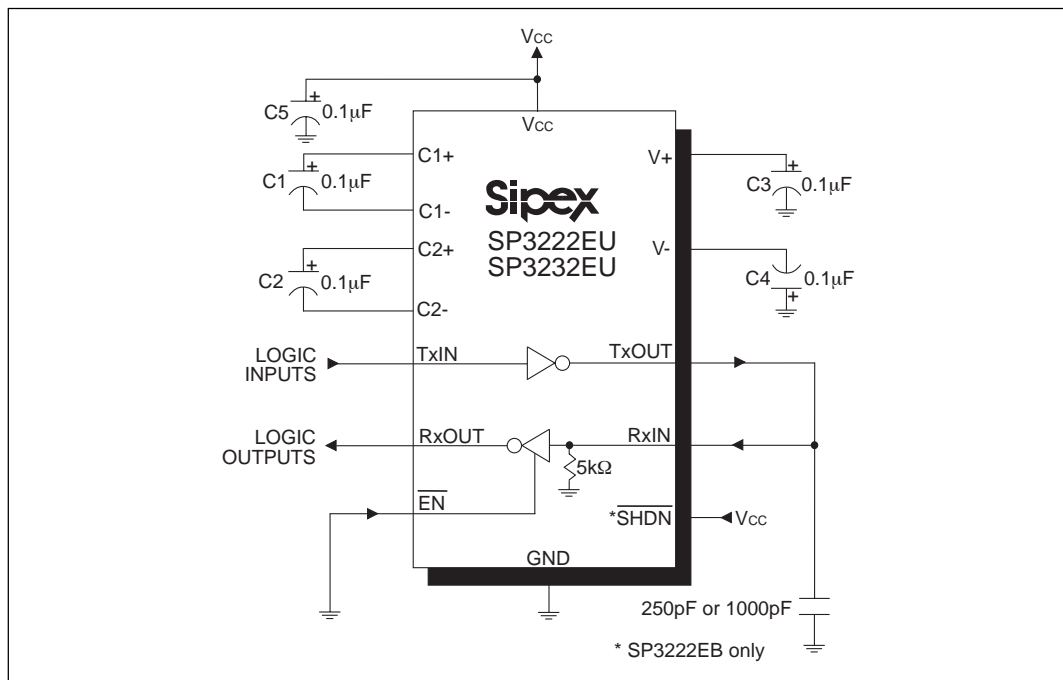
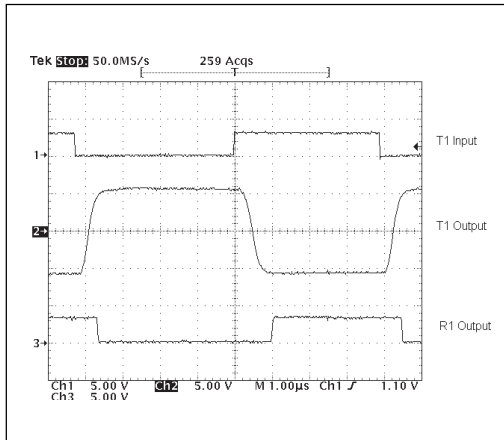
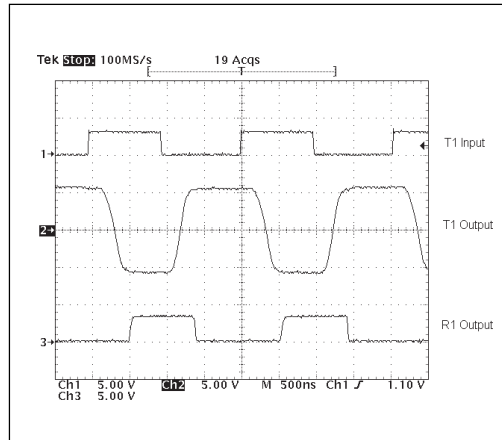

Figure 11. SP3222EU/3232EU Driver Loopback Test Circuit
Figure 12. Driver Loopback Test All Drivers at 250kbps
Figure 13. Driver Loopback Test One Driver 1Mbps
*Figure 11* shows a loopback test circuit used to the RS-232 drivers. *Figure 12* shows the test results of the loopback circuit with all drivers active at 250kbps with RS-232 loads in parallel with 1000pF capacitors. *Figure 13* shows the test results where one driver was active at 1000kbps and all drivers loaded with an RS-232 receiver in parallel with a 250pF capacitor.